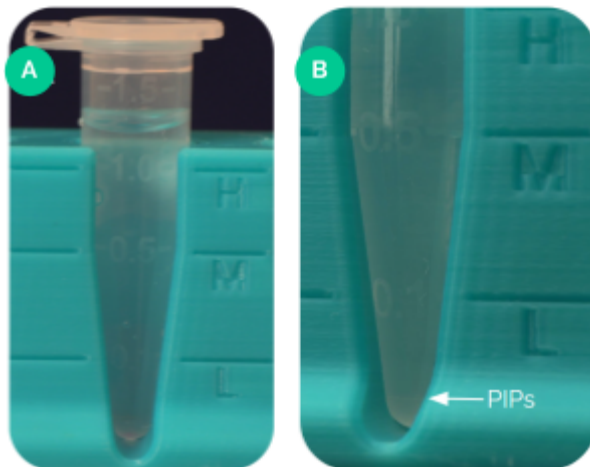

Figure 9. PIPs are difficult to visualize in (A) before centrifugation. PIPs may be seen in the bottom of the 1.5 mL tube during washes (white arrow) in (B).
- Aspirate and discard the aqueous volume above the 0.1 mL mark on the outside of the 1.5 mL tube **WITHOUT** disturbing PIPs pellet (Figure 9).